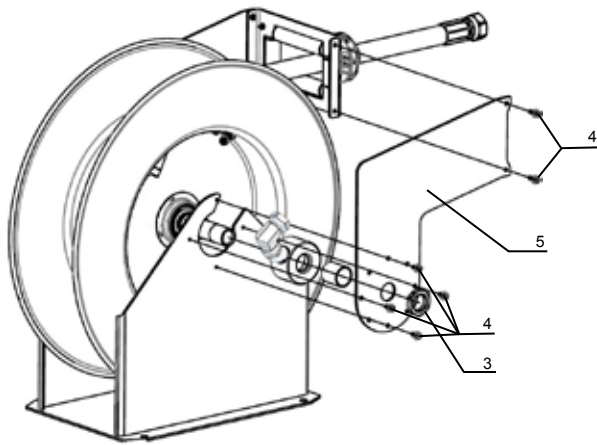

Figure 9
7. Remove screws (4) and arm (5) (figure 9)